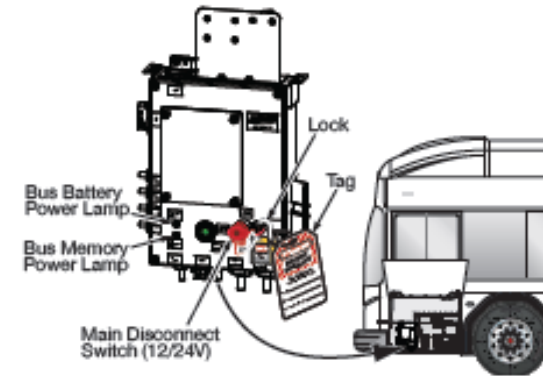

Figure 1-12, Locked and Tagged Main Disconnect Switch (12/24V)
- In the low-voltage battery compartment, turn the Main Disconnect Switch (12/24V) to the "OFF" position (Figure 1-12).